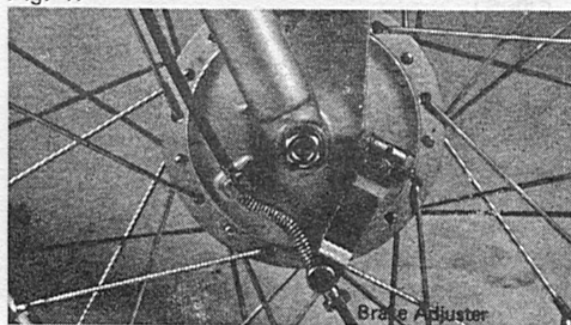

Fig. 48
2. To adjust the front brake, turn the brake adjuster nut clockwise to tighten the brake or counterclockwise to loosen it. (Figure 48)